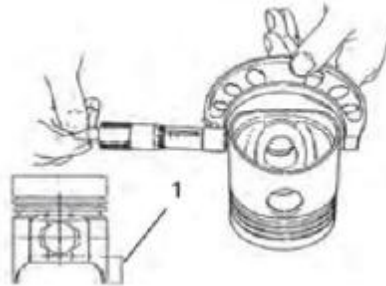

Figure 95.
4. Measure the diameter of the piston skirt at 90° to the wrist pin bore as shown (Figure 95). Measurements must be taken at a specified distance (Figure 95, Item 1) from the bottom of the piston. Record measurements. See *Mechanical Specifications Chart*.